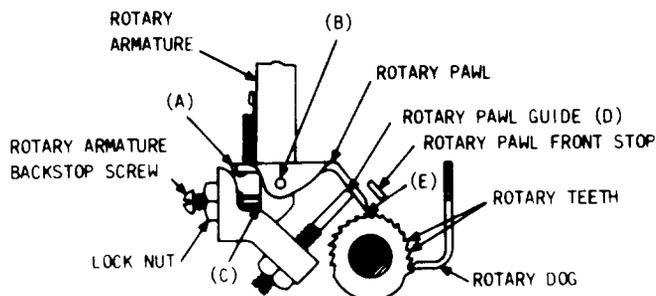

Fig. 3—Rotary Armature and Associated Parts◆
**3.06 Rotary Pawl Spring:** On switches equipped with a rotary pawl spring having a single loop at one end, the opening in this loop (Fig. 3, location A) when attached to the rotary pawl shall not exceed 5/64 inch. **Gauge by sight.**
**3.07 Rotary Pawl Play:** The rotary pawl (Fig. 3, location B) shall be free from bind. **Gauge by feel.**
- (a) The rotary armature (Fig. 3, location C) shall overlap the end of the backstop screw by a minimum of 2/3 the diameter of the end of the screw. **Gauge by sight.**
- (b) The rotary pawl (Fig. 3, location D) shall entirely overlap the end of the rotary pawl guide. **Gauge by sight.**
**3.14 Rotary Armature Backstop Screw Position:** With the rotary armature against its backstop screw (Fig. 3, location E), the rotary pawl shall clear the rotary teeth as the shaft slowly restores to rotary normal from the last rotary step of the first, fifth, and tenth levels, but this clearance on the fifth level shall not exceed 0.016 inch. **Use the KS-6909 gauge.**